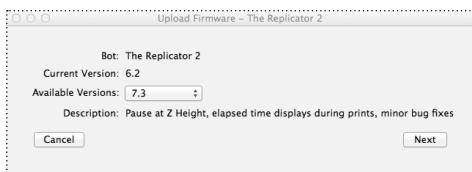

Fig. 15.2
2. Choose “Upload Firmware” from the MakerBots menu. MakerWare will walk you through the rest of the steps necessary to upload new firmware. [Fig 15.2]